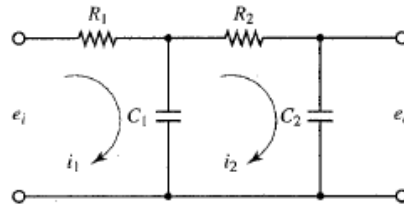

Figure 3-85
31. Consider the electrical circuit shown in Figure 3-85. Obtain the transfer function $E_o(s)/E_i(s)$ by use of the block diagram approach.